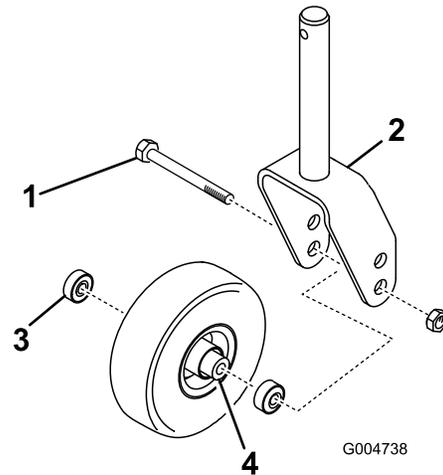

Figure 142
1. Remove the locknut from the bolt holding the caster-wheel assembly between the caster fork or the caster-pivot arm (Figure 142).
2. Grasp the caster wheel and slide the bolt out of the fork or pivot arm (Figure 142).
3. Remove the bearing from the wheel hub and allow the bearing spacer to fall out (Figure 142).
4. Remove the bearing from the opposite side of the wheel hub (Figure 142).